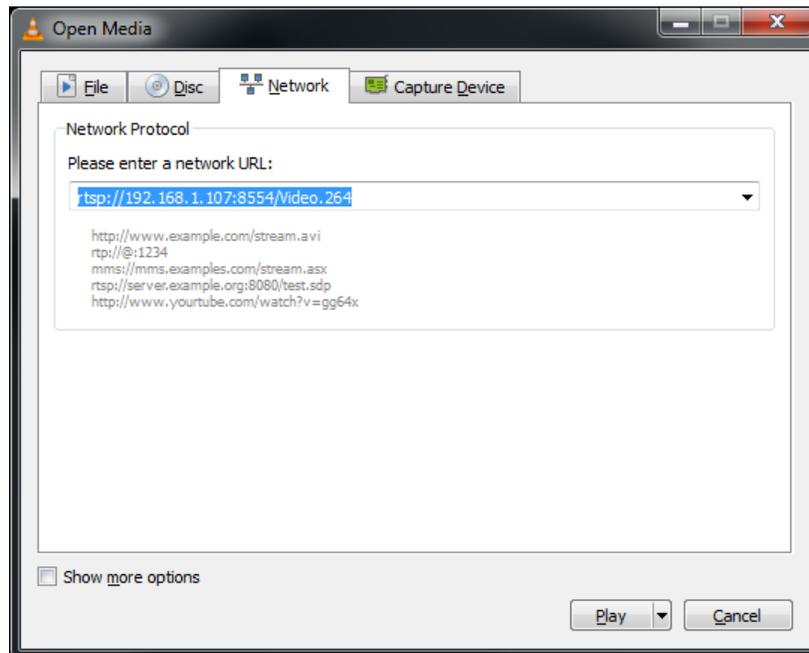

Figure 3-8. Enter Network URL
3. For the Network URL, enter "rtsp://<local IP address>:8554/Video.264" and press Play, as shown in Figure 3-8.